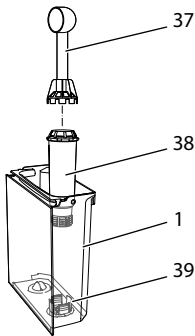

Fig. 18: Screwing/unscrewing the water filter
- Remove the water filter (see Fig. 18).